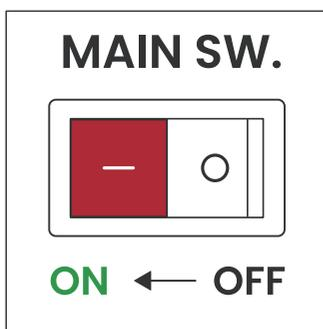

Fig.13
- 3 Press the MAIN switch to the "ON" position (see **Fig.13**).